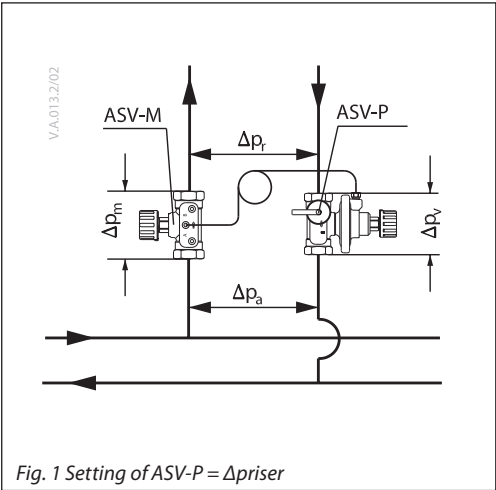

Fig. 1 Setting of ASV-P =  $\Delta p_{riser}$
- partner valve outside the control loop (Fig. 1). Recommended configuration: it results in best performance since whole controlled pressure range is available to the riser. Flow limitation is done on each terminal unit in the riser (for example, RA-N with presetting on radiator, etc).